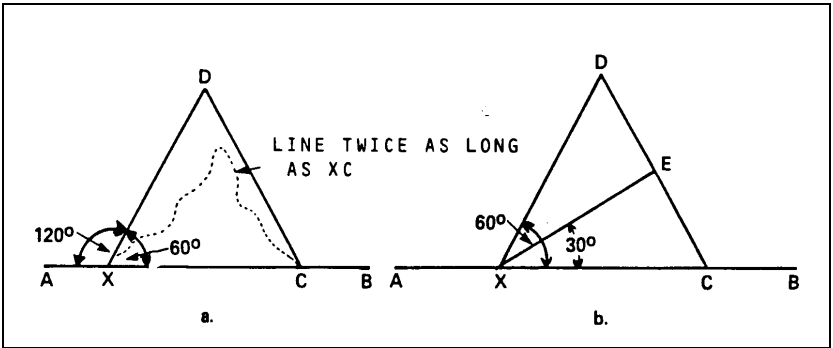

Fig 11-3-7 Constructing an Angle of  $60^\circ$
9. **To Set Out 30° and 60° Angles to a Given Line** (Fig 11-3-7):